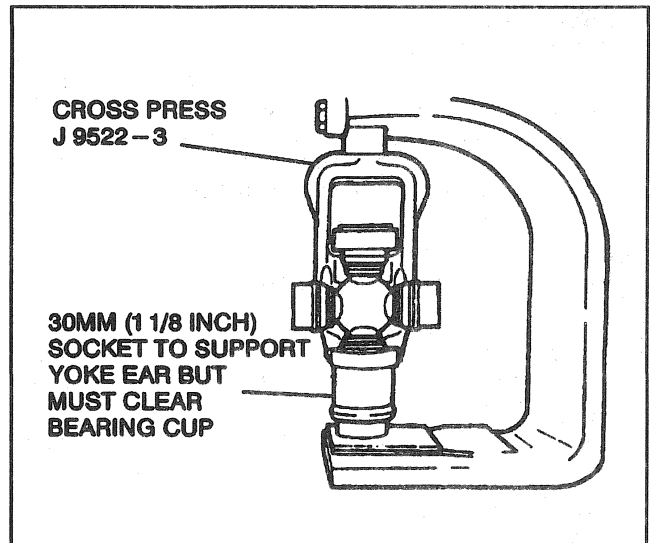

Figure 14—Pressing Out Universal Joint
- Place the universal joint so that the lower ear of the yoke is supported on a 30mm (1 1/8 inch) socket (Figure 14).
- Place the universal joint so the lower ear of the yoke is supported on a 30mm (1 1/8 inch) socket (Figure 14).